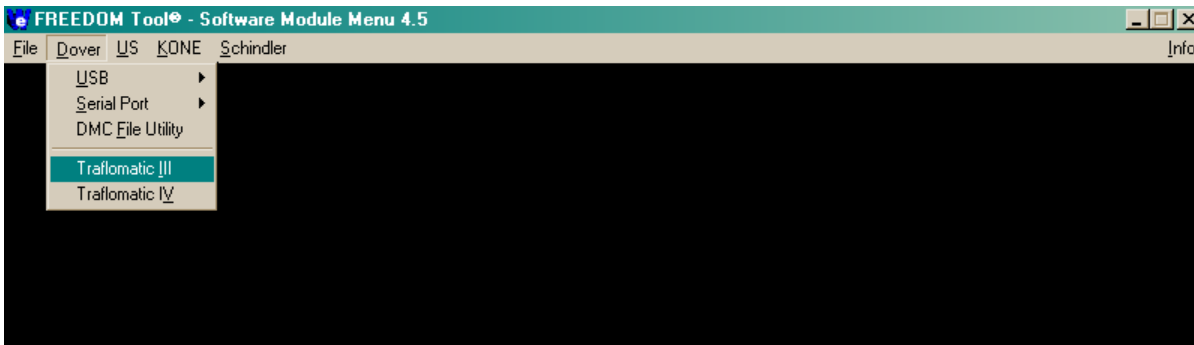

Figure 29
4. In order to run the Traflomatic Software Module the user would need to select Dover from the menu. Refer to Figure 29. After Dover is selected the user is presented with choices of **USB**, **Serial Port**, **DMC File Utility**, **Traflomatic III** and **Traflomatic IV**.
5. The next item to be selected in order to run the Traflomatic-III or Traflomatic-IV Software Module is their respectively named menu choices as shown in Figure 29 above. At this time position the Notebook PC's pointing device over top of the desired controller choice and click one time. If the module is installed, the software will begin running at this time.